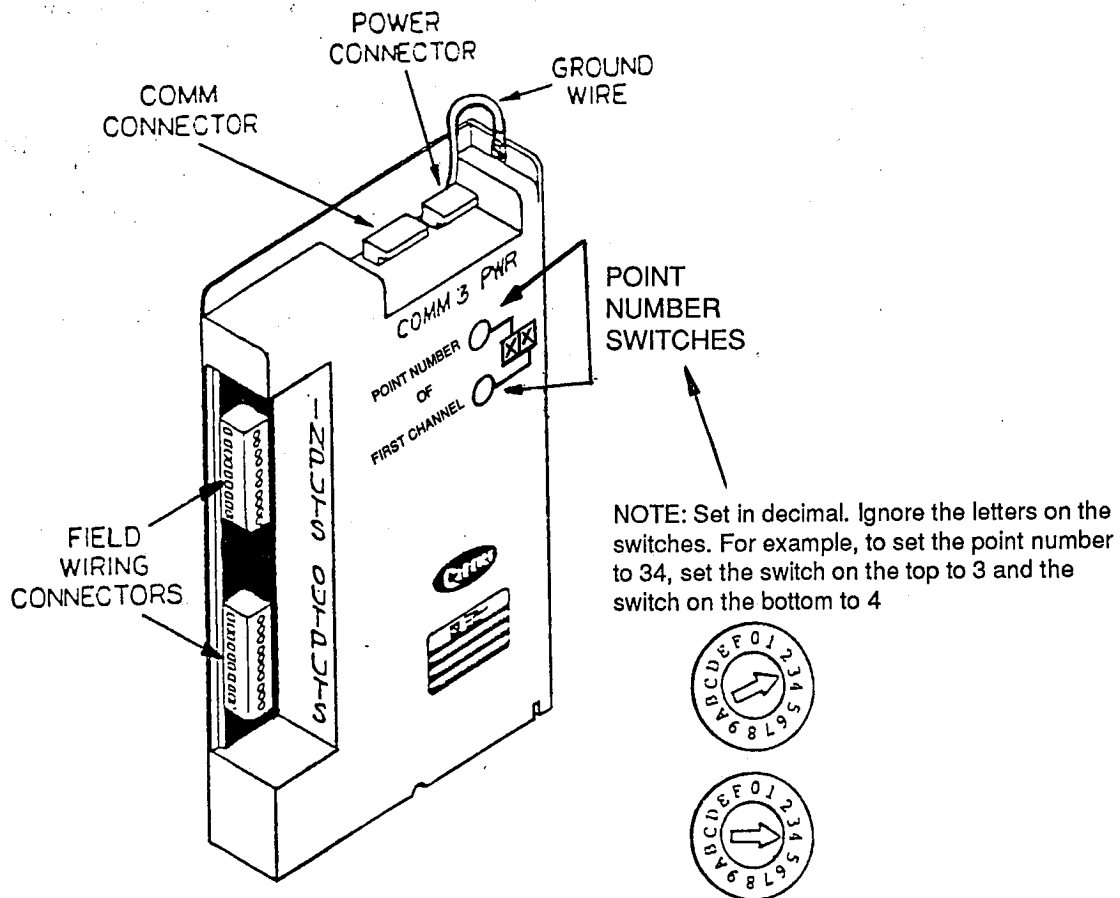

Figure 6 - I/O Module
2. Using a 1/8" blade screwdriver, set the 2 switches labelled *POINT NUMBER OF FIRST CHANNEL* to the appropriate position. Refer to Figure 6. Refer to the UT203 FID Module Wire Lists to determine the first point number that is being used by each module.